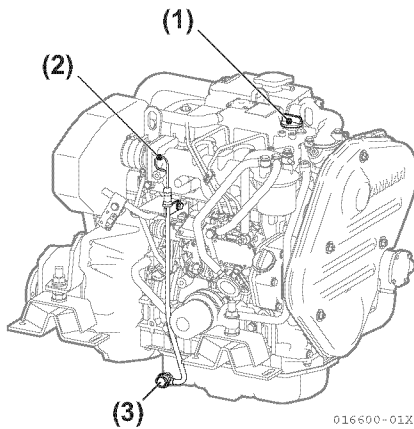
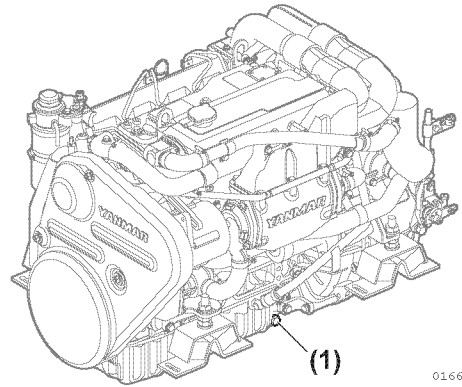

Figure 8-5
Figure 8-6
1. Remove oil filler cap (yellow) at top of rocker arm cover (**Figure 8-5, (1)**).
2. Remove the engine oil dipstick (**Figure 8-5, (2)**).
4. Remove pipe joint bolt (**Figure 8-5, (3)**) or drain plug (**Figure 8-6, (1)**) and drain engine oil to appropriate vessel. Dispose of used oil properly. **NOTICE: ALWAYS be environmentally responsible.**